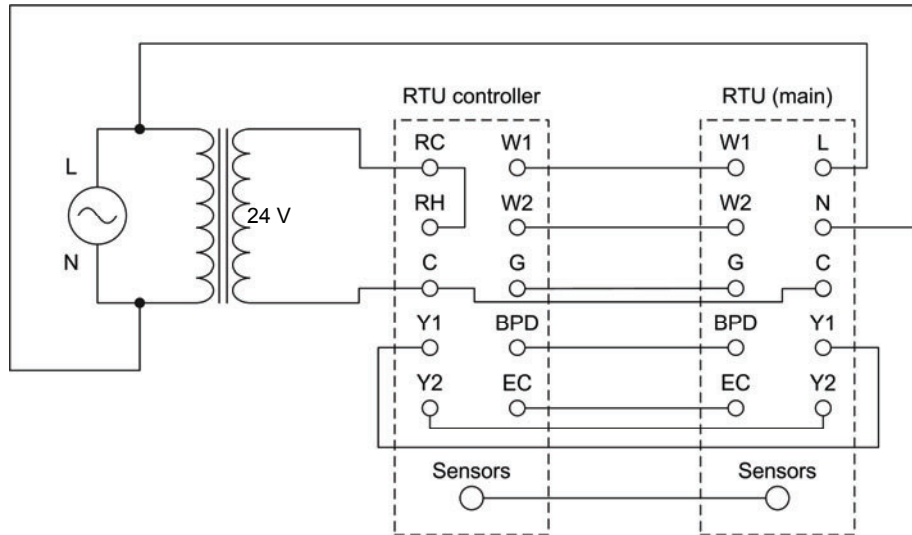

Figure 44. Connecting the RTU.
3. Use the test leads to connect the power source, control transformer, RTU controller, and RTU as shown in Figure 44.